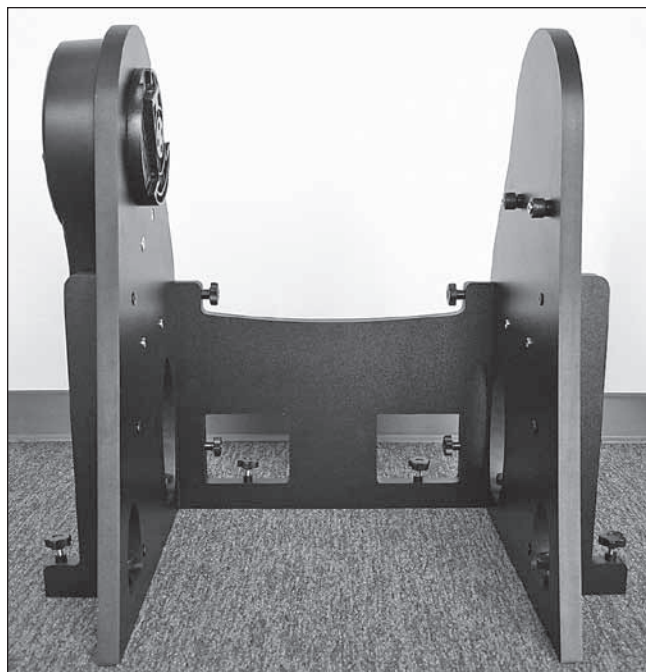

Figure 10. The completed side panel and front panel assembly.
4. Now attach the front brace to the two side panels with the four appropriate captive connecting bolts. Use the hand knob to screw each bolt into the threaded metal receptacle recessed in the side panel. The side panels should be oriented so the side braces are facing outward. The front panel should be oriented so that the two pilot holes for the eyepiece rack face outward. Do not completely tighten the connecting bolts yet. The completed assembly should look like **Figure 10**.